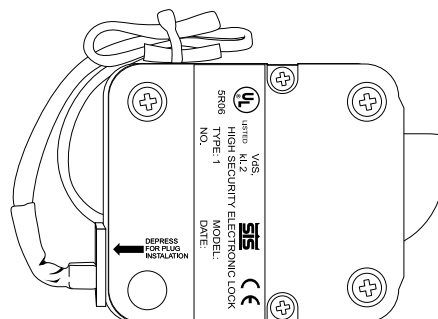

Figure 4
5. Secure any cables with wire tie, making sure to keep out of the way of all moving parts (Figure 4).
6. Connect the cable coming from the Entry Device directly into the connector port marked ENT on the lock (Figure 4).
In order to use a Redundant Mechanical lock, a method of retracting the bolt is required. Use of the VISIONGARD Dial (P/N 2085) is recommended (Figure 4). An entire range of LA GARD dials is available for alternate dial options.